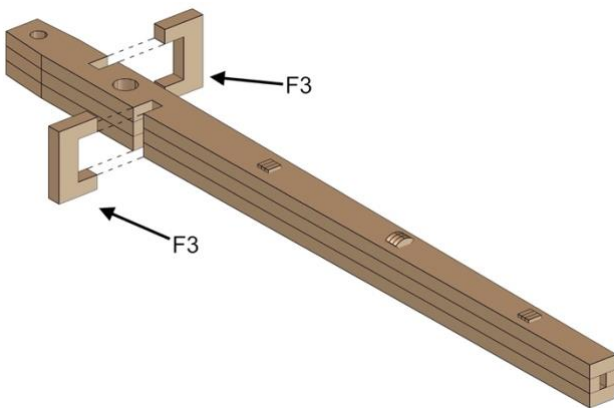

Fig. 56
- Align parts exactly as shown in *Fig. 56*.